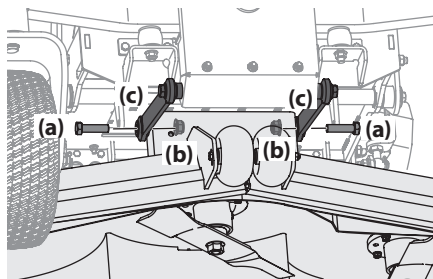

Figure 52
5. Remove the hex screws (a) and flange lock nuts (b) securing the front deck control rods (c) to the deck. See Figure 52.